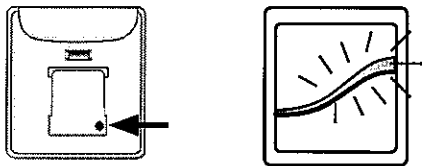

Fig. 2
- B. Press and hold the program button on the secondary remote control until the LED light flash green, then release the button. (Fig. 2.) Both the primary and secondary remote LEDs will flash green, then off confirming inclusion.